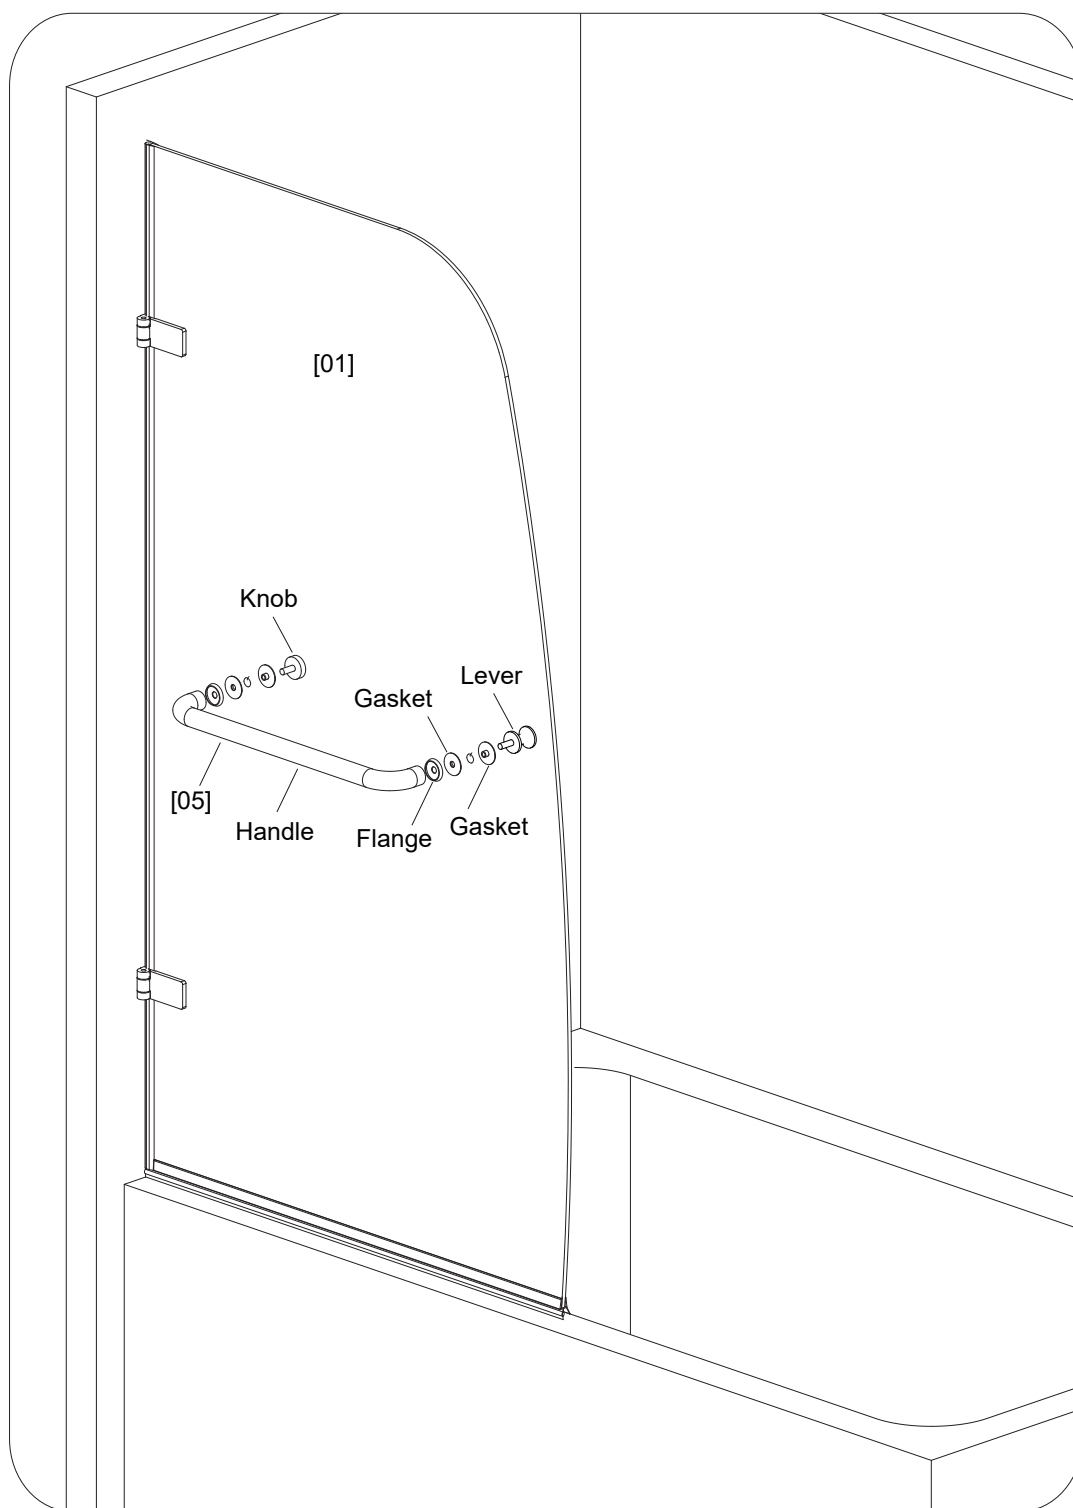

Fig 5
1. Disassemble the **Handle [05]** and install to the **Door [01]**. Install **Handle, Flanges** and two **Gaskets** from the front of **Door [05]**. Install another two **Gaskets, Lever**, and **Knob** from the back of **Door [05]** and secure to finish the installation. (Fig 5)